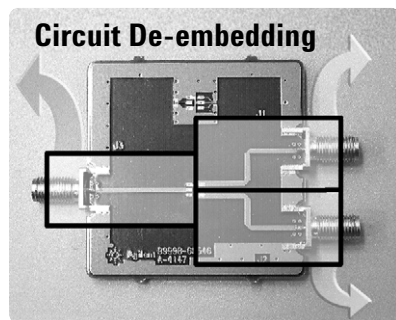

Figure 4. Fixture effect removal with circuit de-embedding
The de-embedding function of the ENA's fixture simulator removes the unwanted fixture effects, according to the fixture characteristics given in 2x2 S-parameter Touchstone (.s2p) files, as shown in Figure 4. There are at least two ways for fixture characterization. One way is to use a circuit simulator like ADS. Another way is to characterize a fixture by actually measuring it with the ENA and the Cascade Microtech probe system. (For details, see item 4 of Additional Literature, listed below.)